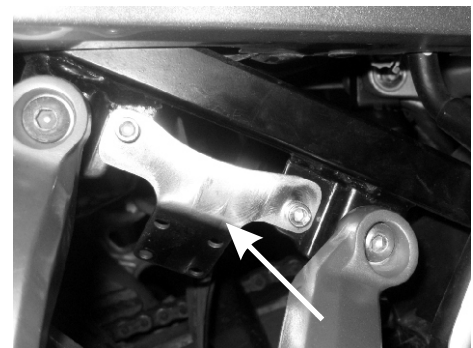

figure 3
- Mount the adjuster to the supplied mounting bracket adapter using the supplied M6-1.0X8mm SHCS fasteners and torque them to 80-90 in/lbs (9-10 N-m). Then mount the bracket and adjuster to the bike in the same location as the stock preload adjuster (*figure 3*).